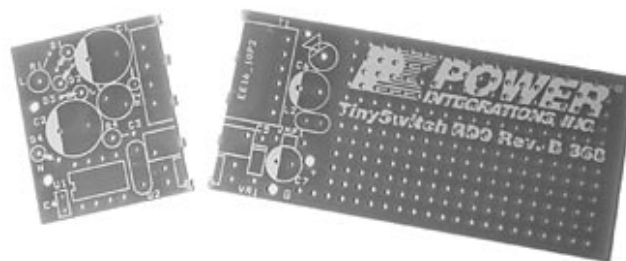

Figure 6. Prepared RD9 Board.
- Break the RD9 board along the perforations to separate the primary and secondary halves. The secondary half of the board contains the prototyping area (Figure 6).